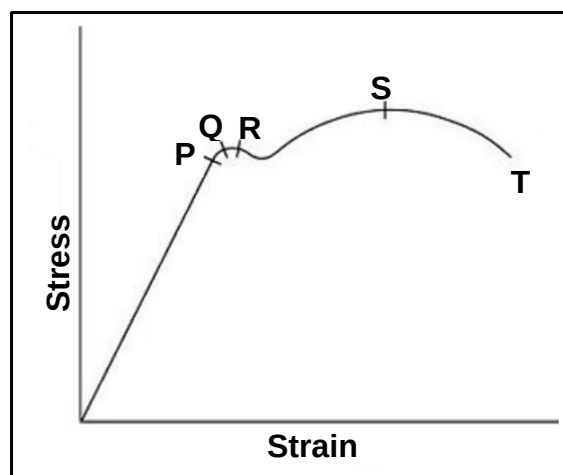

FIGURE 4.4
4.4 Identify **S** in the stress-strain diagram in FIGURE 4.4 below.